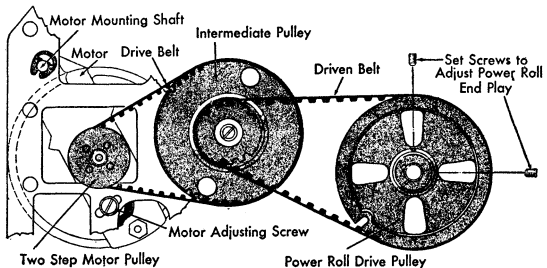

Figure 1. Motor and Drive
2. Adjusting screw that positions the motor to the left side frame (Figure 1).
4. DRIVEN BELT. Adjust by positioning the intermediate pulley shaft. The shaft incorporates a *left-hand thread* so that the pulley rotation tends to tighten the shaft. The deflection of the belt should be approximately 3/8" (Figure 1).
5. POWER ROLL SPEED is obtained by a two-step motor pulley. The 14-tooth step provides 95 feet per minute and the 15-tooth step provides 103 feet per minute. The motor pulley should be positioned on the motor shaft to align the belts and the pulleys (Figure 1).
6. DRIVE BELT. Place this on the 15-tooth pulley on machines of 6-2/5, 8, 9, and 10-pitch escapement. On machines having a 12 or 14-pitch escapement, place the drive belt on the 14-tooth pulley. Adjust the play of this belt for approximately 3/16" deflection by positioning the motor adjusting screw forward or backward in its elongated mounting hole (Figure 1).